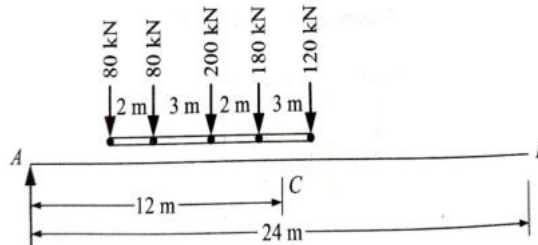

Figure 6.
7. A train of 5 wheel loads as shown in figure 6, crosses a simply supported beam of span 24 m from left to right. Calculate the maximum positive and negative shear force values at the centre of the span and the absolute maximum bending moment anywhere in the span. [14M]